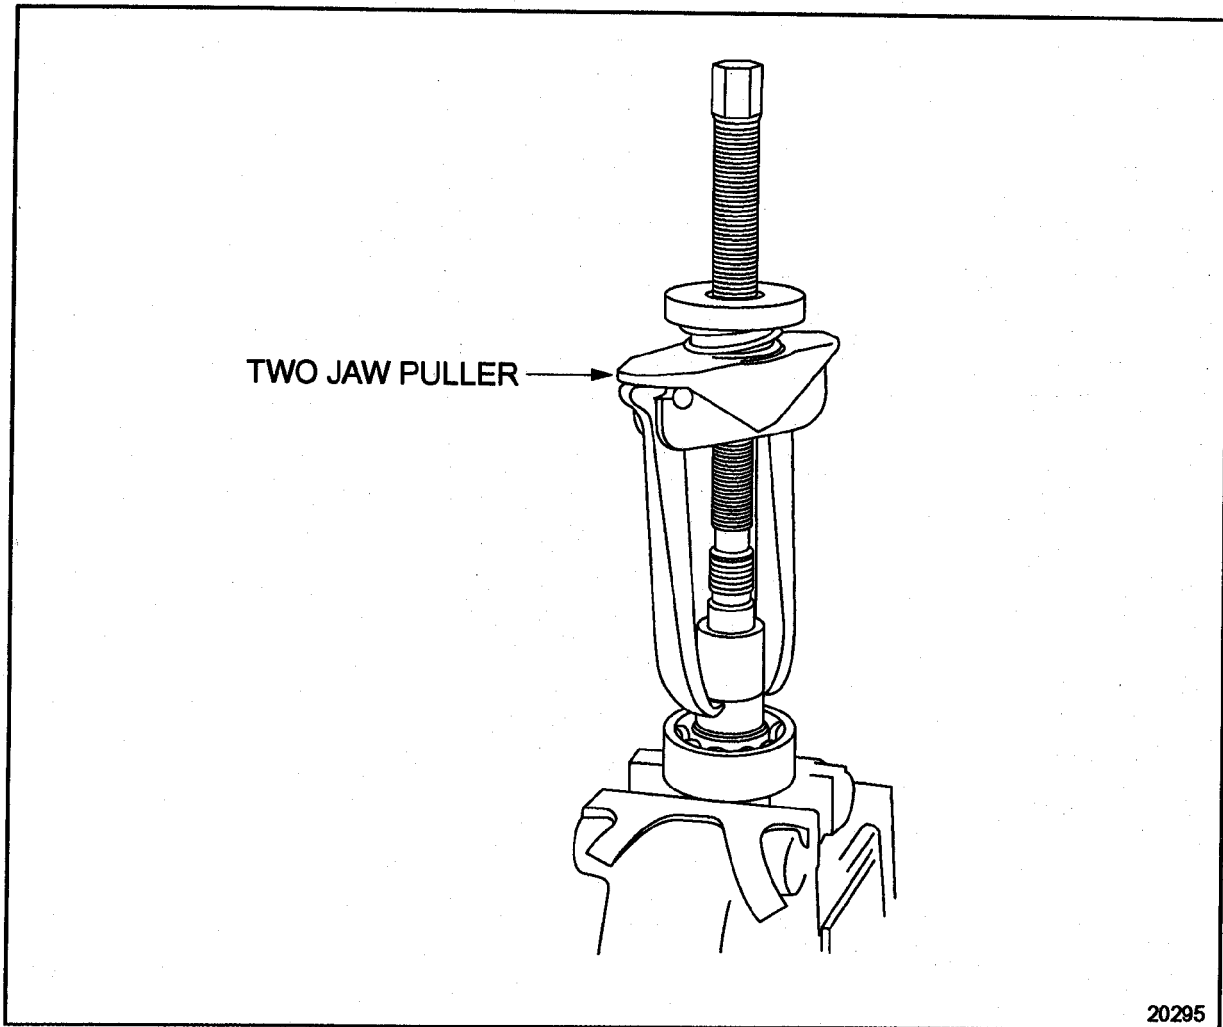

Figure 1-409 **Bearing Inner Race Removal**
12. Remove the needle bearing inner race from the accessory drive shaft with a two jaw puller utilizing the slots provided in the shaft. See Figure 1-409.